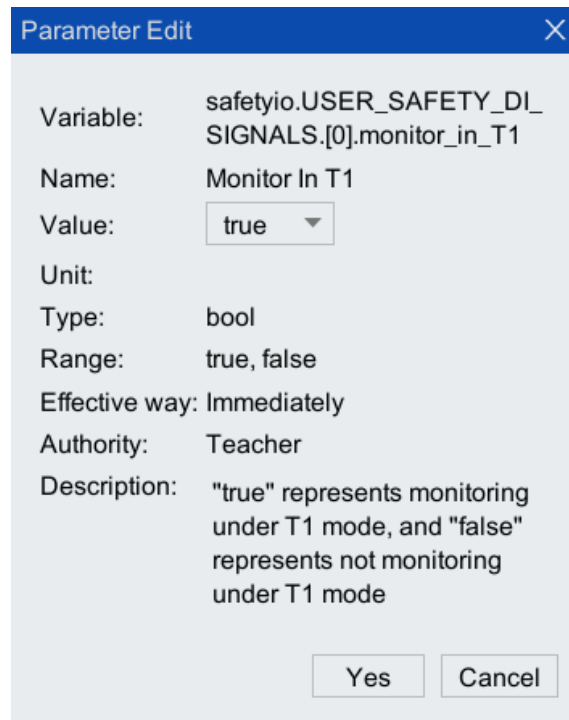

Figure 3-6 [Whether to monitor in T1 mode] configuration interface
- Step7. Click to select the row of [monitor_in_T1 (whether to monitor in T1 mode)], click <Edit>, the configuration interface shown in Figure 3-6 will pop up, and set the parameter in [Value] to "ture".